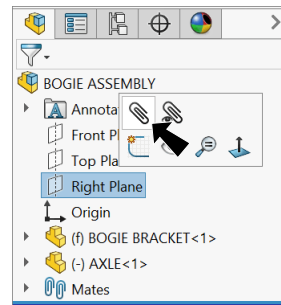

Fig. 5
Step 1. Click **Right Plane**  in the Feature Manager and **Mate**  on the context toolbar, **Fig. 5**.